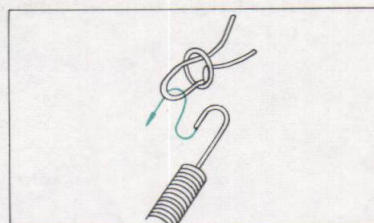

Fig. 2-4. Tying square knot to the coil spring
2. Tie one end of the cord to the coil spring as shown in Fig. 2-4.